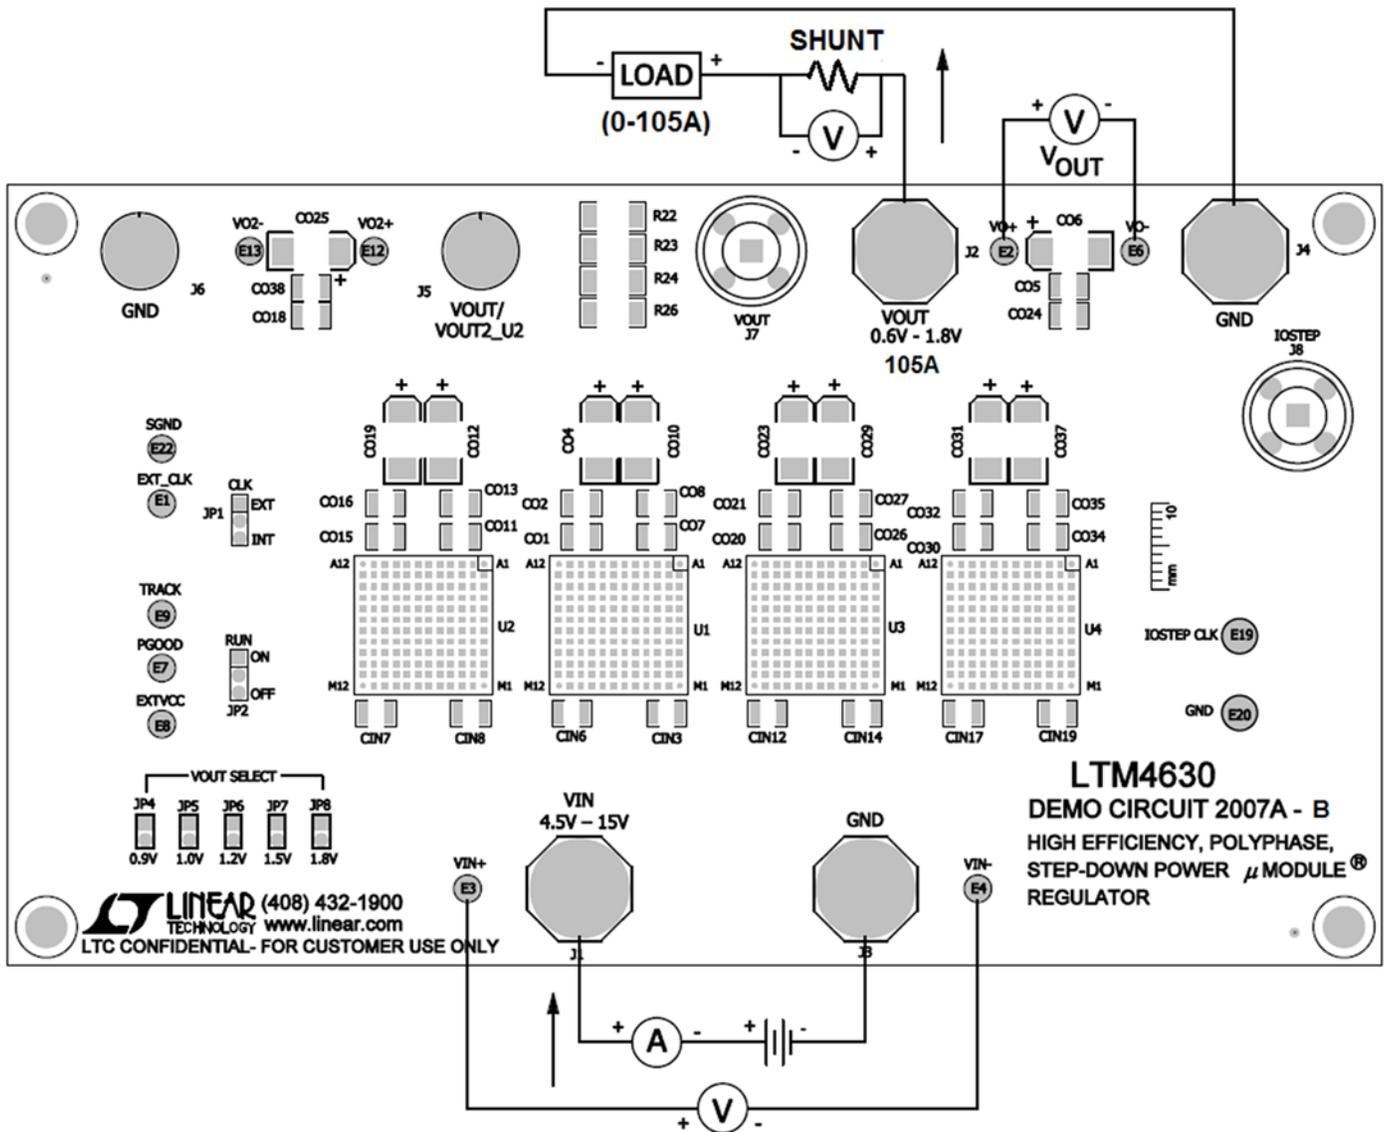

Figure 2. Test Setup of DC2007A-B
Demonstration circuit DC2007A-B is easy to set up to evaluate the performance of PolyPhase operation of the LTM4630EV. Due to the high input/output current, user should select the proper input supply/load/cable which can sustain the full load operation. It's recommended to pull load current from J2 and J4. The load current pulled from J5 and J6 shouldn't exceed 18A. Please refer to Figure 2 for proper measurement setup and follow the procedure below:
2. With power off, connect the input power supply, load and meters as shown in Figure 2. Preset the load to 0A and  $V_{IN}$  supply to 12V.